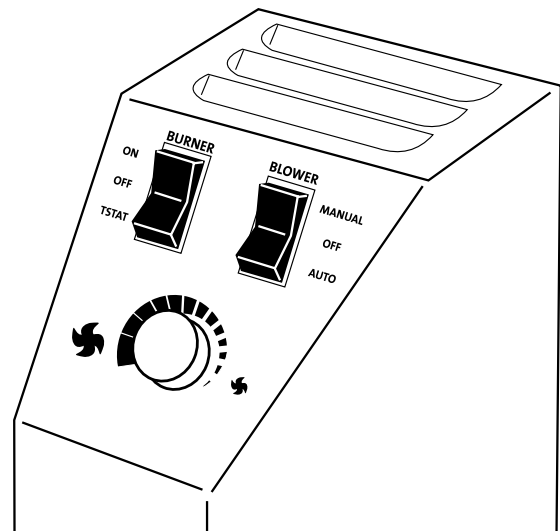

Figure 40. Burner Switch and Optional Blower Controls
1. Once the pilot is lit, burner operation is controlled by the rocker switch located at the left rear corner of the stove. Use the T-STAT position for the optional thermo-static or remote control functions. See fig. 40.